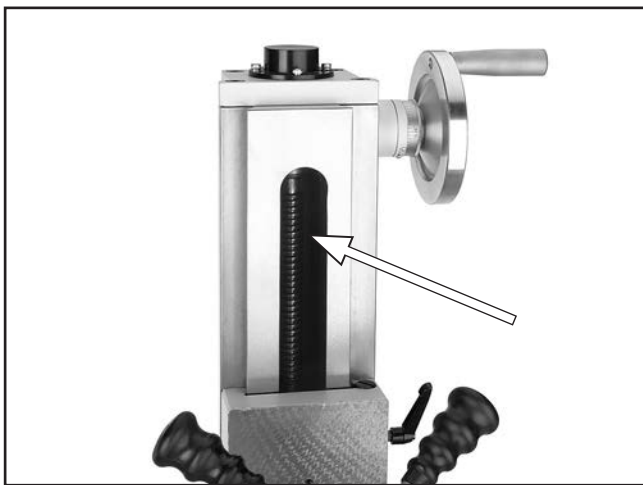

Figure 48. Vertical leadscrew location.
3. Use mineral spirits and a brush to clean as much of the existing grease and debris as possible off of the vertical leadscrew shown in **Figure 48**. Allow leadscrew to dry.